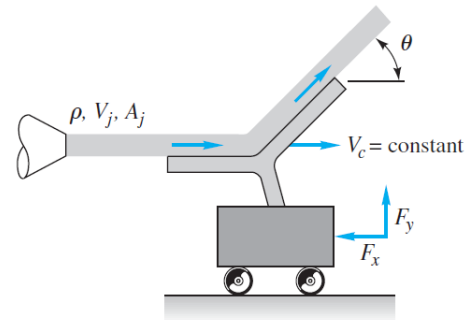

Fig. 3.16
3.6 Incompressible steady flow in the inlet between parallel plates in Fig. 3.16 is uniform, $u = U_0 = 8$ cm/s, while downstream the flow develops into the parabolic laminar profile $u = az(z_0 - z)$, where a is a constant. If $z_0 = 3$ cm and the fluid is SAE 30 oil at 20°C, what is the value of u_{\max} in cm/s?
3.16 In Fig. 3.16 the jet strikes a vane that moves to the right at constant velocity V_c on a frictionless cart. Compute a) the force F_x required to restrain the cart and b) the power P delivered to the cart. Also find the cart velocity for which c)